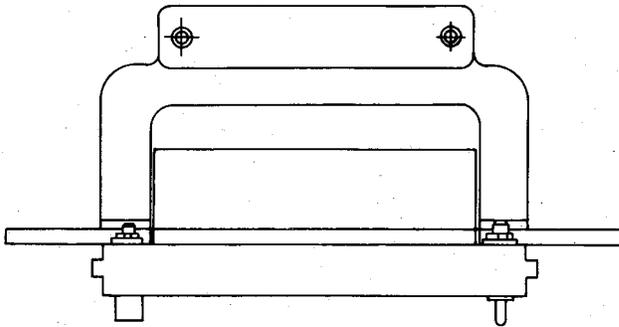

Fig. 4—KS-19401, L2 Connector
2.04 **KS-19401, L1 and L2:** The KS-19401, L1 and L2 (Fig. 4) are polarized, coaxial connectors, each consisting of a molded block of insulating material, equipped with 12 miniature, floating, snap-in contacts in two rows of six. The connector is arranged for panel mounting and used on the 301B data set.